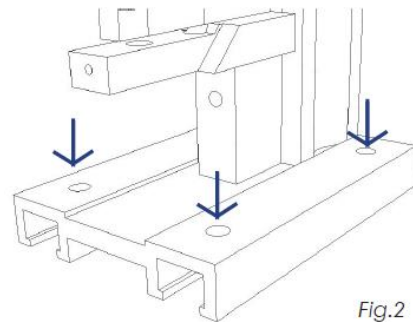

Fig.2
1. Fix the punching machine in a horizontal and stable place and at the appropriate height to avoid that the machine falls during usage. To fix it, use the holes incorporated in the base. Figure 2